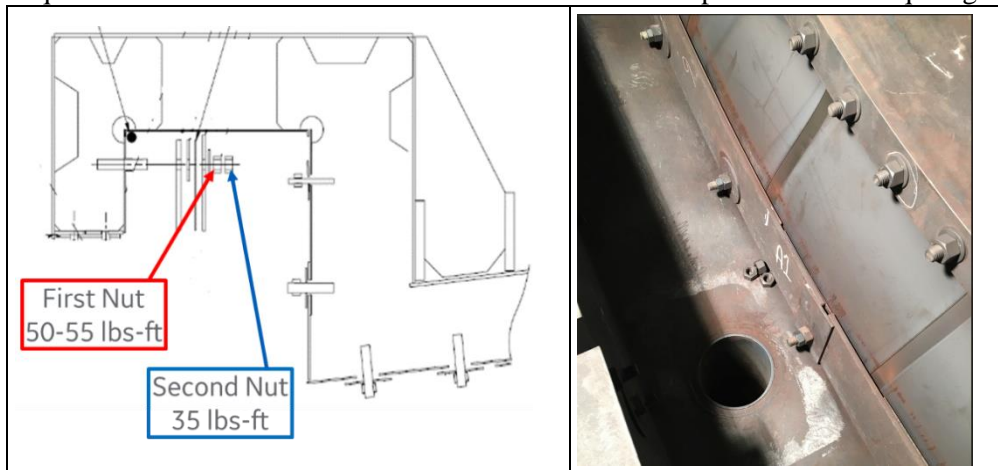

Figure.19: Hardware Inspection
- The torque of the third layer clamping bar nuts should be properly torqued following the double nut method in Figure.19.